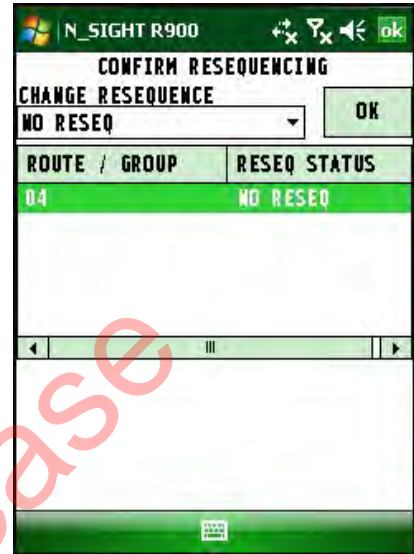

Figure 6.45 Confirm Resequencing Screen
- 1 When you press  to exit the N\_SIGHT R900 software, the Confirm Resequencing screen appears as illustrated in Figure 6.45.